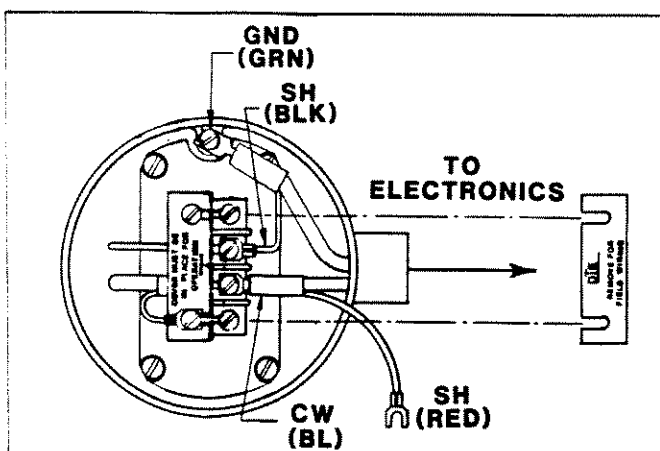

Fig.3-5
The cable connections to the sensor have been prewired at the factory. If those connections come loose or the cable is being replaced, see Figure 3-5 and use the following procedure for proper wiring.
- C. Wire the green, black and blue cable leads to the corresponding color-coded screws as shown in Figure 3-5.
- D. Slip the cover plate back under the two hold down screws. Slip the red (SH) lug under the red screw and tighten both screws.